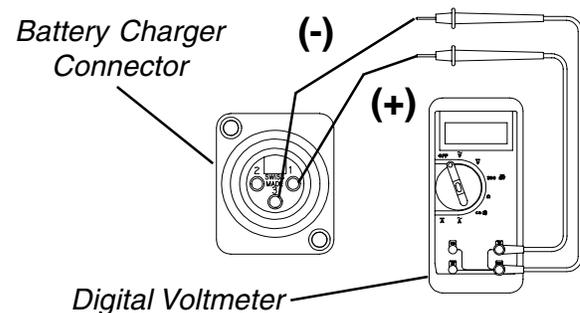

FIGURE 1 - FIELD LOAD TEST
**This Procedure Includes the Following:****Field Load Test****Using Hydrometer To Check Battery Cells (Lead Acid)****Motor Testing****Motor Brush Inspection****Electro-Mechanical Parking Brake Test****FIELD LOAD TEST (FIGURE 1)**